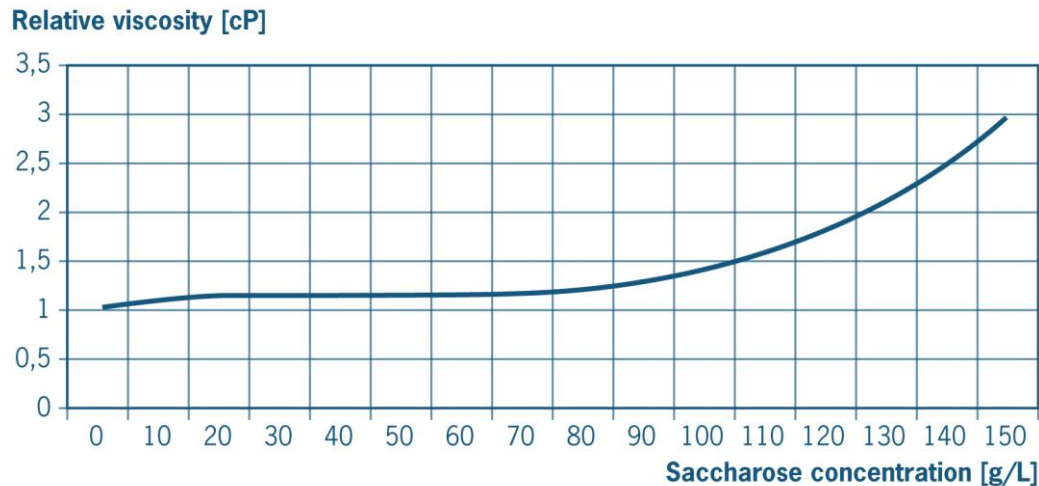

Figure 60 Relationship between saccharose concentration and viscosity
The basic molecule of sugar is also present alongside the basic molecule of protein in the meringue. Saccharose, or table sugar, is used to make a meringue. This is a disaccharide, consisting of glucose and fructose. Mono- and disaccharides are used in foams to make them sweeter. They are also responsible for the crispy texture of the foam once it has been baked. Saccharides also play an important role in the thickness of the foam. Before the meringue goes into the oven, the saccharose prevents the foam from sinking due to the liquid running out. The sugar increases the viscosity of the foam (*Figure 60*). Saccharose dissolves on a molecular level, and is present in the continuous phase of the meringue.
3. Look at Figure 60. Explain the relationship between the sugar concentration in the meringue and the viscosity of the liquid.
5. Using Figure 60 explain why the meringue with a low sugar concentration has a lot of drainage, while the meringue with the highest sugar concentration has the least.